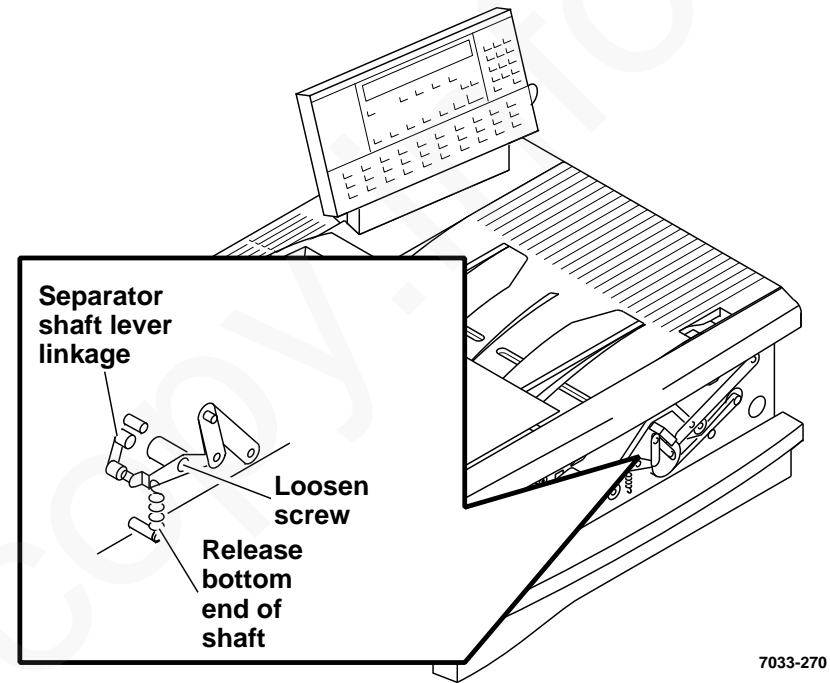

Figure 21. Separator shaft lever linkage removal
- a. Release bottom end of linkage spring (Figure 21).